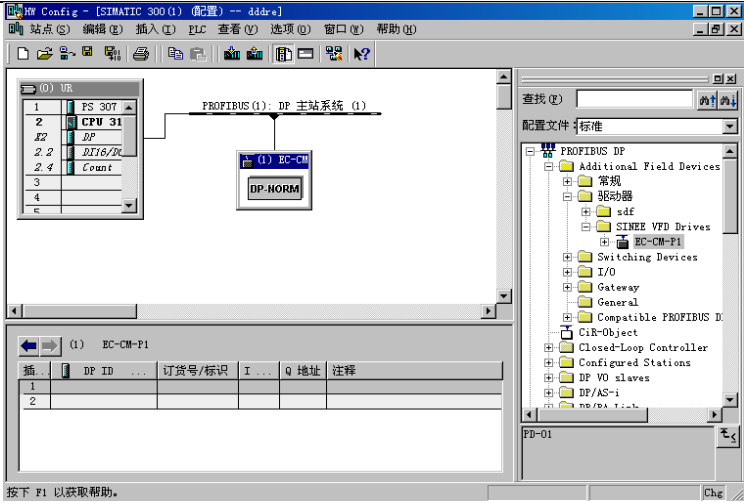

Figure 7-15
11. EC-CM-P1 Add PROFIBUS DP bus, as shown in Figure 7-15 shown.